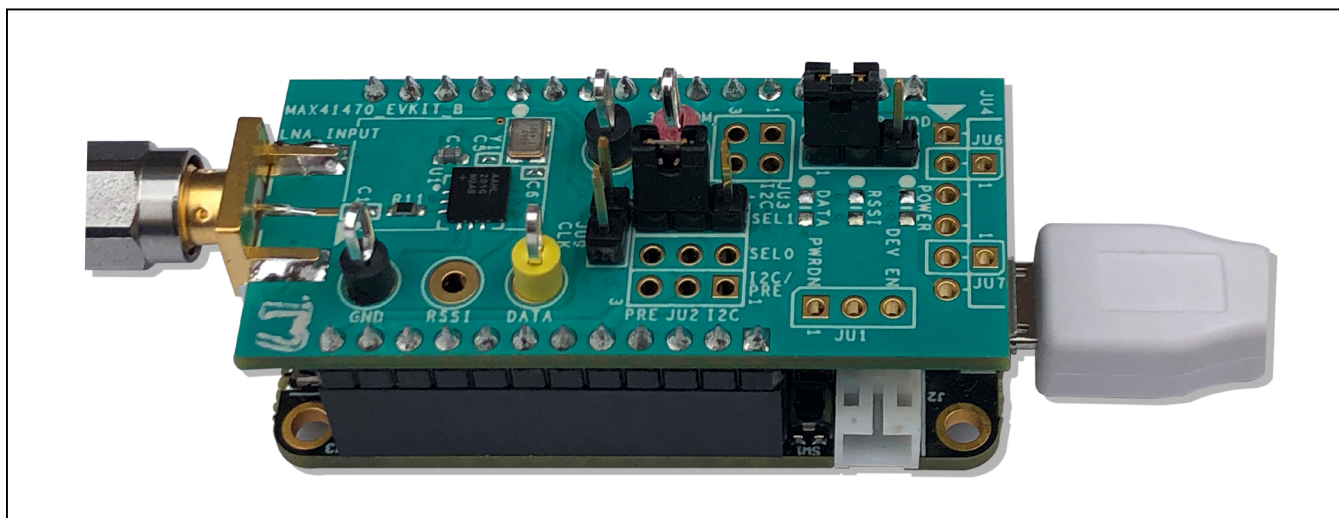

Figure 2. MAX4147XEVKIT Orientation to FTHR Board
- 2) Connect the MAX4147X EV kit to the FTHR board, making certain that the USB connector is oriented on the opposite side of the SMA connector, as shown in Figure 2.